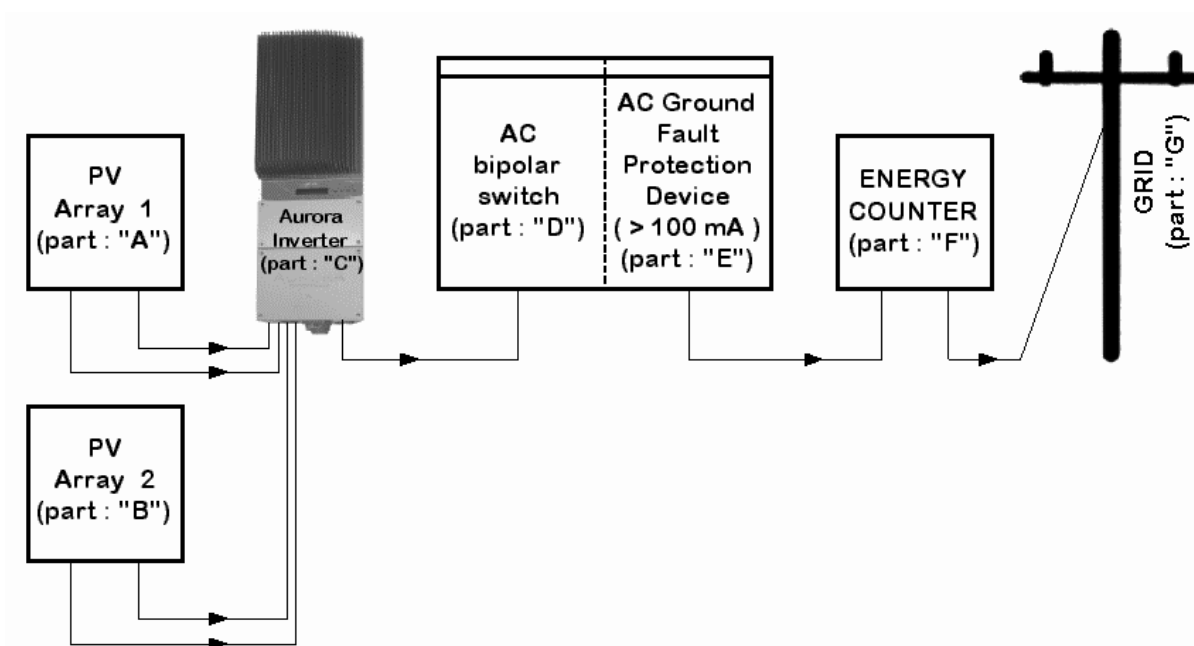

Fig.9 - Electrical connection diagram
On the output AC side an automatic magnetothermic switch shall be inserted between AURORA and the distribution grid (see fig 9: Electrical connection diagram)
STEP 1 If the inverter is connected to the AC Grid (Fig 15-“terminal block for AC connection”– pos. "1", "2" e "3") DISCONNECT the inverter from the AC Grid by opening the switch indicated as Part “D” in Fig 9-“Connecting Diagram”
WARNING: the switch Box disconnect the DC current from the photovoltaic panels when the switch in pos 'E' (see the electrical schematics in Fig.11 SD-01 – Electrical Schematics D.C. Switch Box" and not the AC line going to the Grid. To disconnect the inverter from the Grid the AC switch (not included in the Switch Box) shall be disconnected (see fig 9"connection diagram)
Step 1: Disconnect from the AC Grid by turning off the "AC Bipolar Switch" – Part "D" in fig. 9 "Electrical connecxtion diagram"
STEP 2: Disconnect the inverter from the A.C Grid using the A.C disconnect switch shown as Part "D" in Fig. 9 – " Connection diagram "